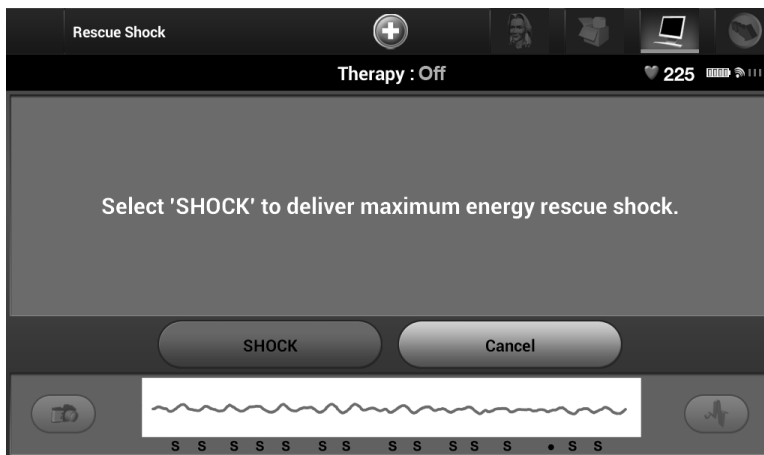

Figure 49: *Rescue Shock screen*
1. Select the red Rescue Button at the top of the programmer screen. The Rescue Shock screen appears (Figure 49).